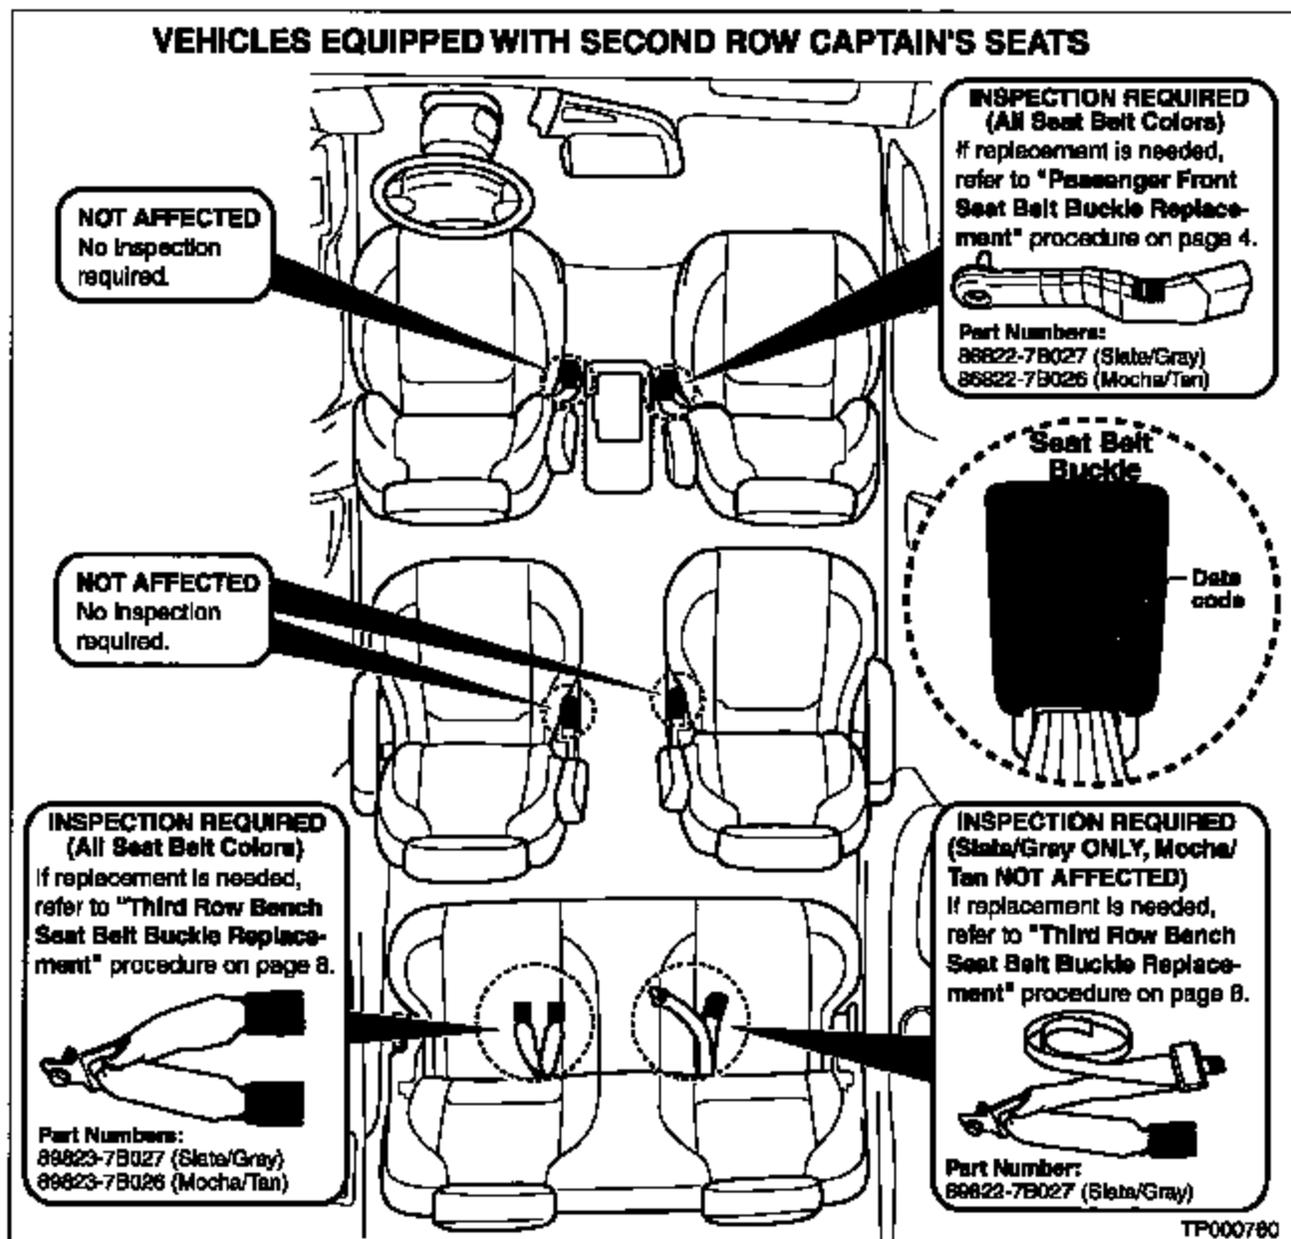
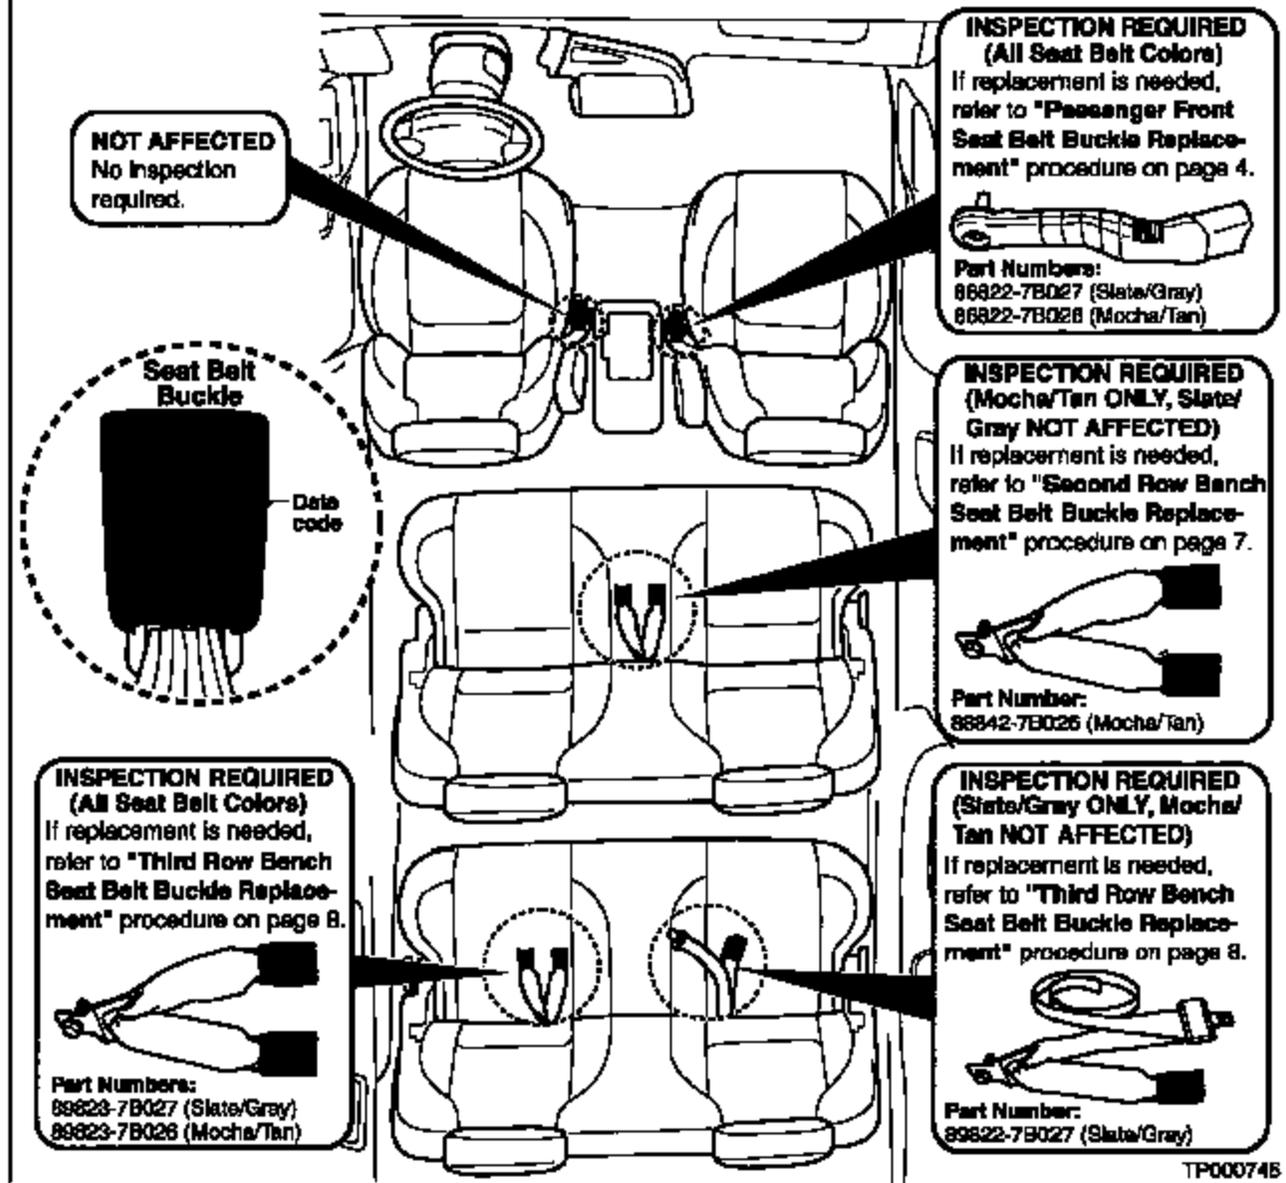

Figure 1
Figure 2
Check the date code on the seat belt buckles. Refer to Figure 1 or Figure 2 to determine which seat belt buckles need to be inspected. Not all seat belt buckles need to be inspected.
Figure 1 is for vehicles equipped with second row captain's seats. Figure 2 is for vehicles equipped with a second row bench seat.
- If a seat belt buckle has date code 156001 or 157001, replace it. Refer to Figure 1 or Figure 2 for the inspection procedure and the related seat belt buckle P/Ns.